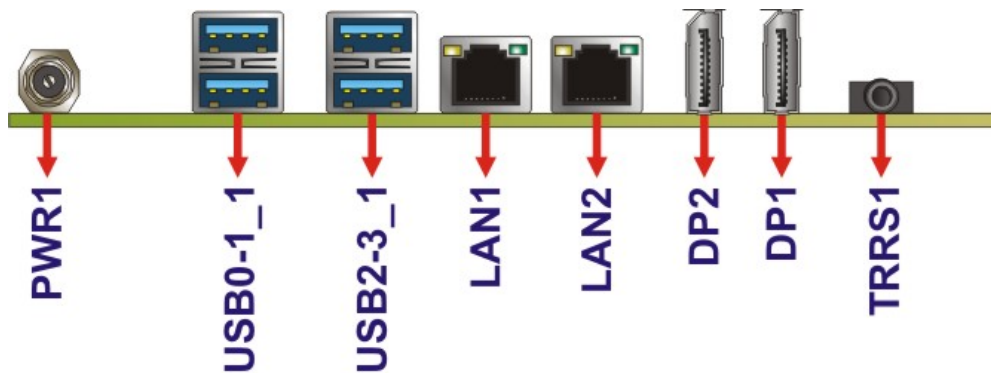

Figure 3-24: External Peripheral Interface Connector
Figure 3-24 shows the tKINO-AL external peripheral interface connector (EPIC) panel. The EPIC panel consists of the following:
CN Location: See Figure 3-24
- CN Location:** See **Figure 3-24**
- CN Location:** See Figure 3-24